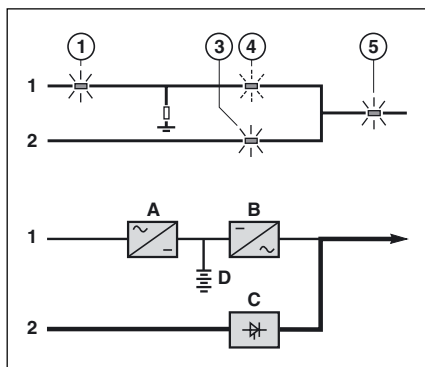

Fig. 11
See figure 11.
no battery discharge (see figure 11). When bypass AC source power supply (2) is restored or returns to within specified tolerances, the load is transferred back to the static bypass (C), without an interruption in the supply of power.